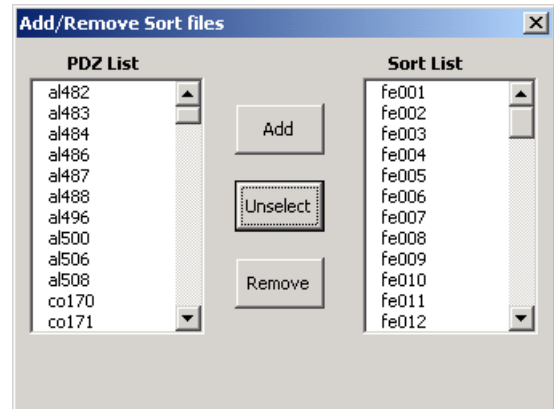

Figure 5
- 6.3. From the S1CalProcess menu, **SELECT** *Add/Remove Sort Files*. A window will open (Figure 5).
- Available files (from PDZ sheet) that are NOT currently in use are listed on the left (see Figure 5); files currently in use are listed on the right.